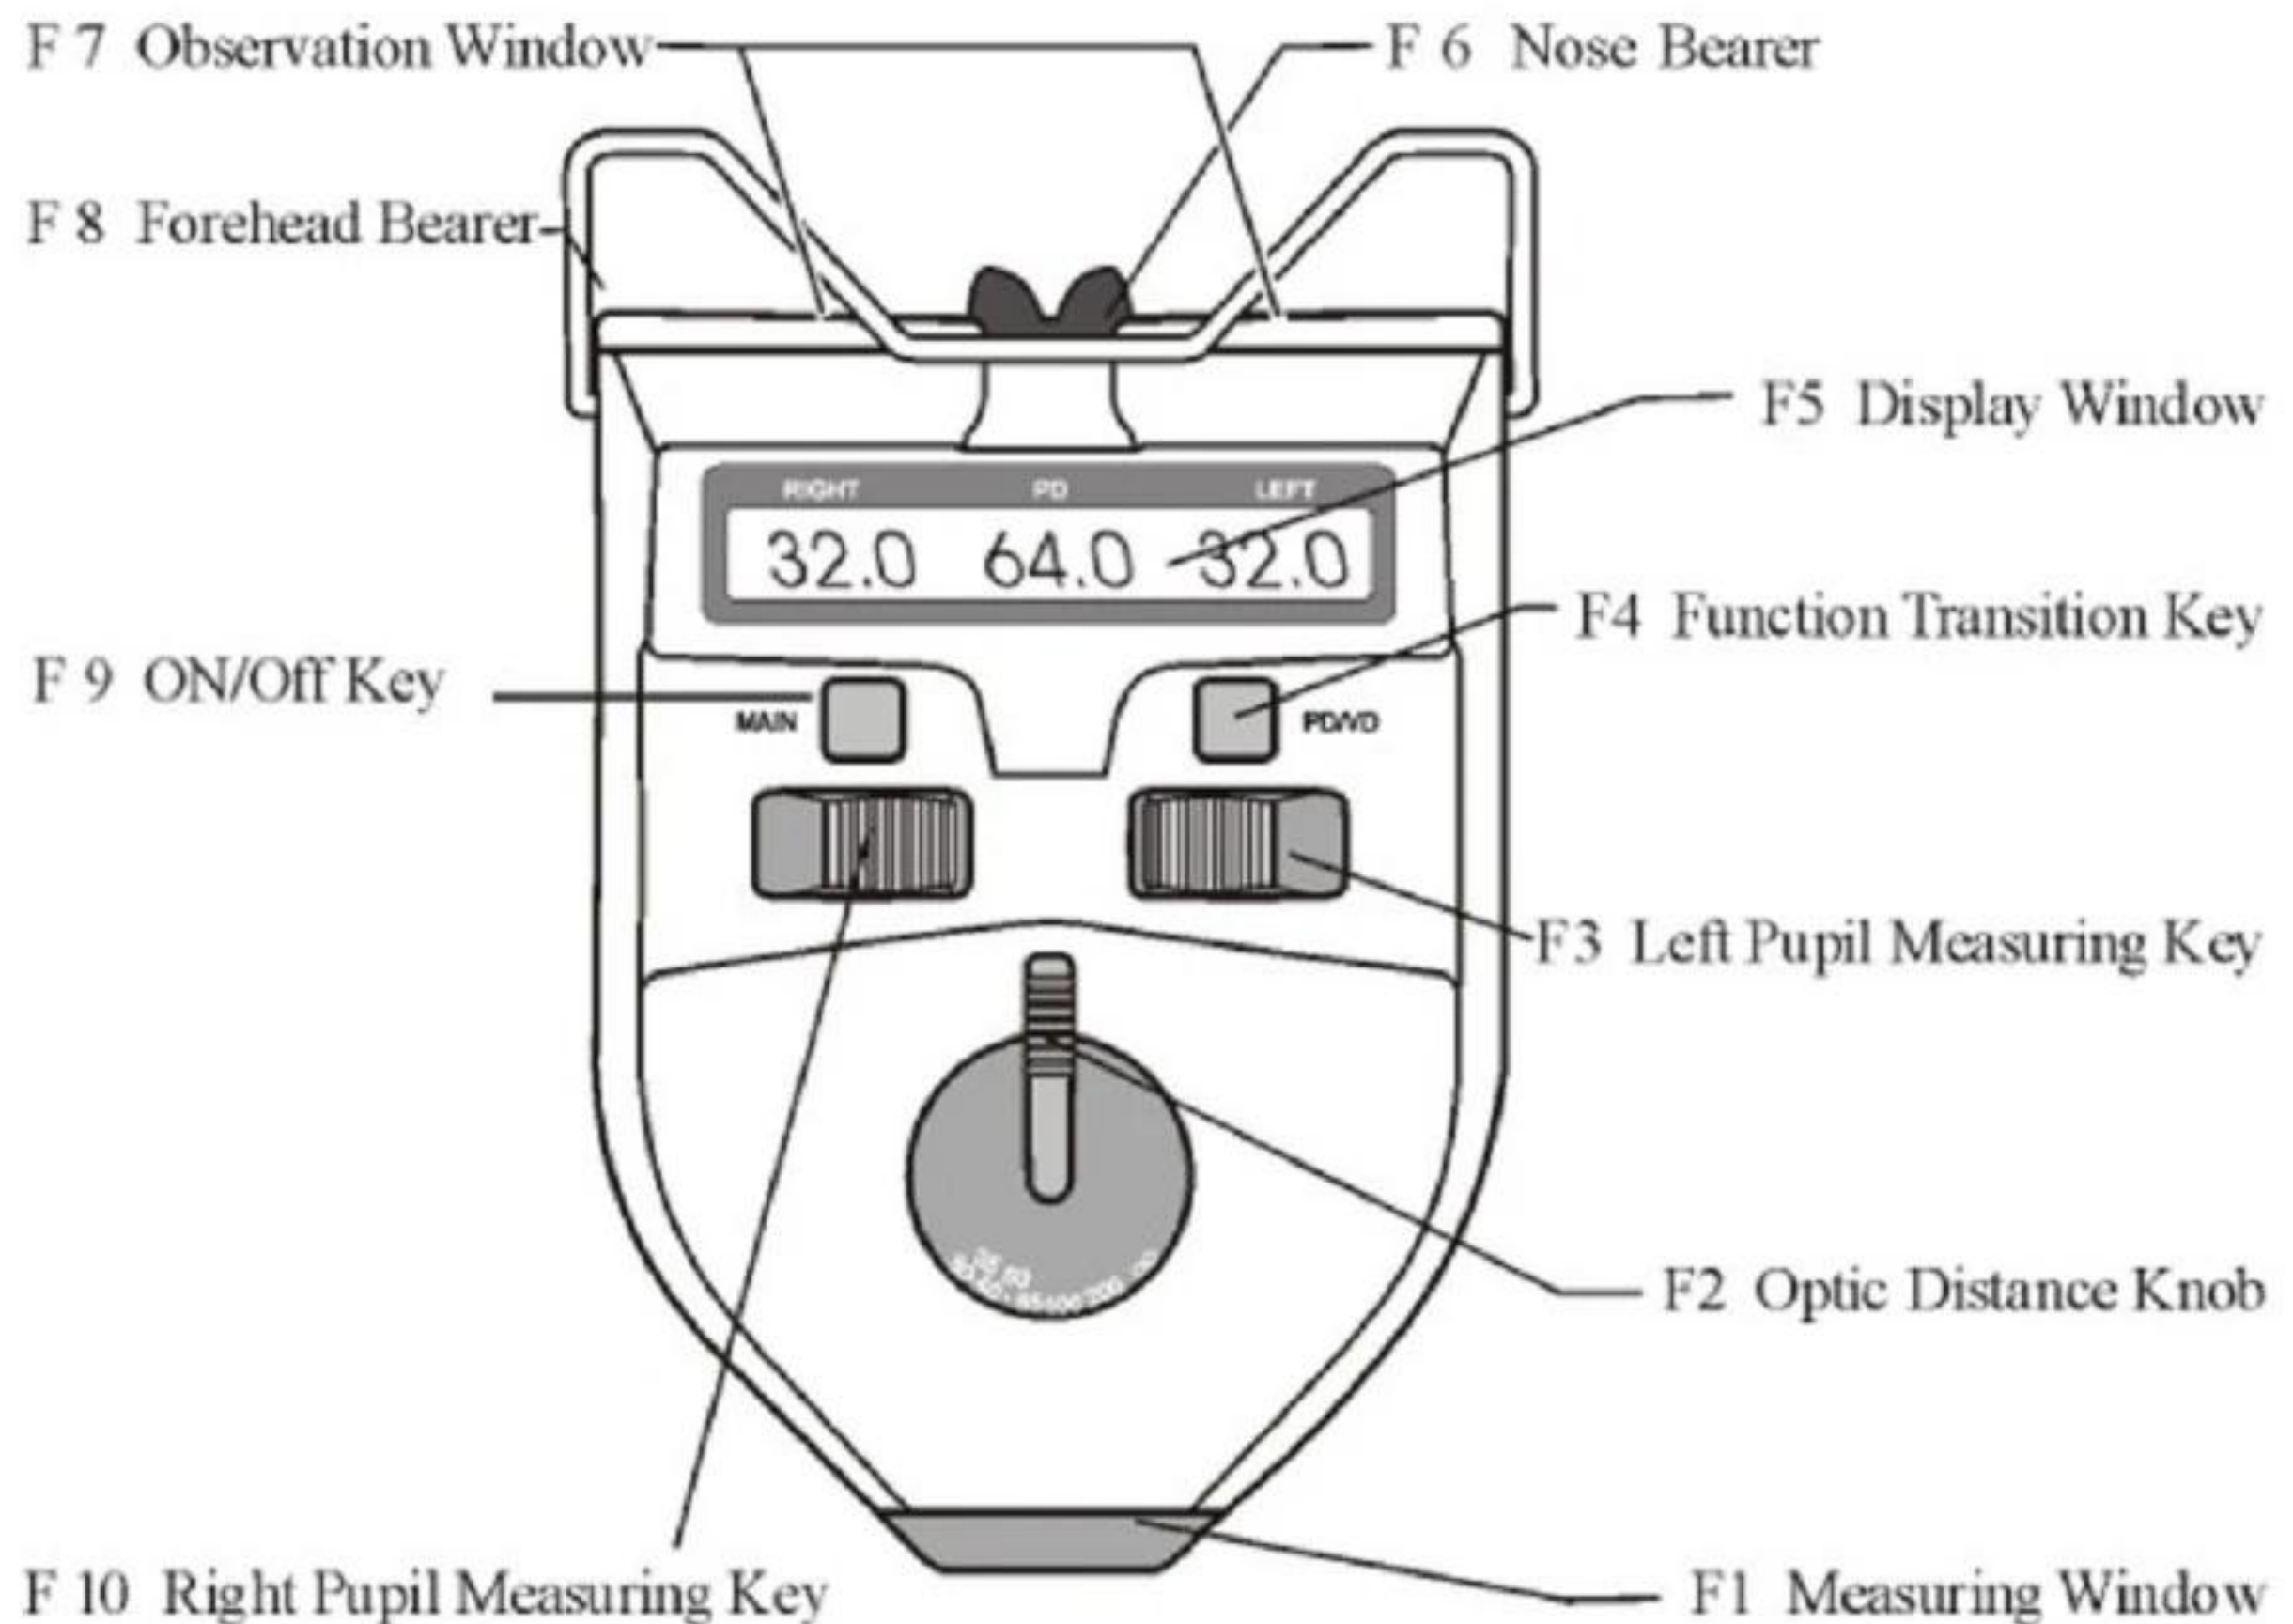

Fig.1
3.1 Description of the Front Panel (as shown in Fig.1)
4.3.5 In order to measure the pupillary distance at different optic distances, please turn the Optic Distance Knob(as shown in Fig.1 NO.2) to your optic distances first and then make your measurement. This device sets some different optic distance locations such as 30cm, 35cm, 40cm, 50cm, 65cm, 1m, 2m and ∞ .